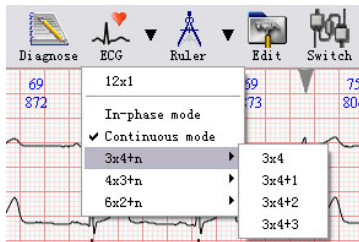

Figure 69
- **"ECG":** select wave arrangement mode during wave review, as Figure 69: